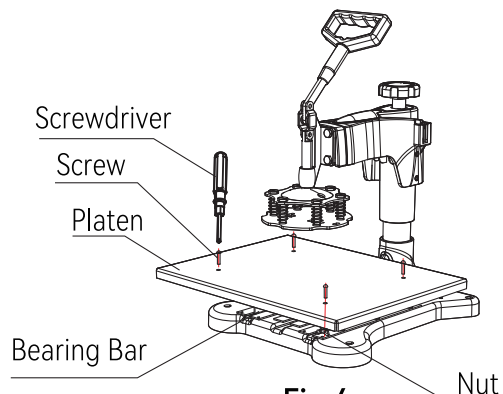

Fig 4
4. Place the table platen flat on the bearing bar, align the platen with the hole in the bearing bar, place the screw, and lock it with a screwdriver (as shown in figure 4).